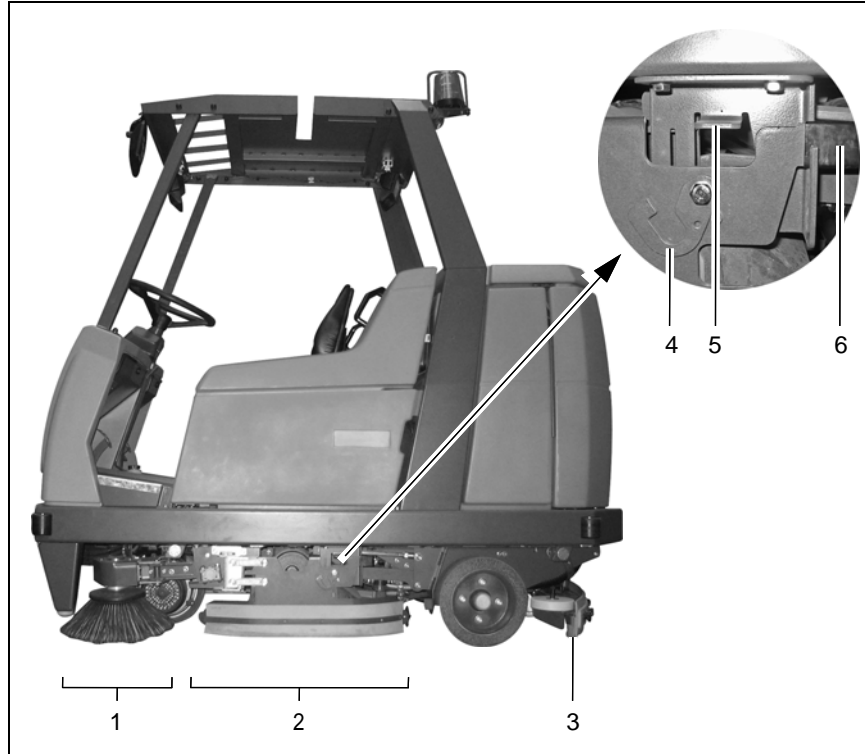

Fig. 12
3.1.1 Rotary brush head (Fig. 12/2)
Deflectors (Fig. 12/2)
The deflectors can be raised, if necessary. This is the case for basic cleaning, for example, where the floor only needs to be scrubbed when wet and the solution is not vacuumed up but allowed to soak in instead. To raise the deflector, take hold of the grip (Fig. 12/6), raise it and hook the locking hooks (Fig. 12/4) in the recesses in the grip above it (Fig. 12/5). Proceed in the same way on the other side of the side of the vehicle.
Side brush unit (Fig. 12/1)
3.1.2 Squeegee (Fig. 12/3)